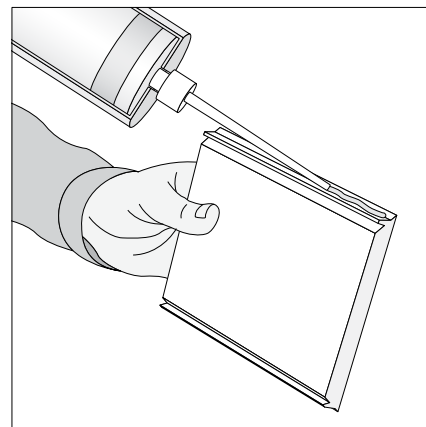

Fig. 4a
- Apply a small bead of Kleer Cellular PVC Adhesive (4-7 or 20-25 Minute Work Time) on the outside tongue of each of the male pieces (**Fig. 4a**)